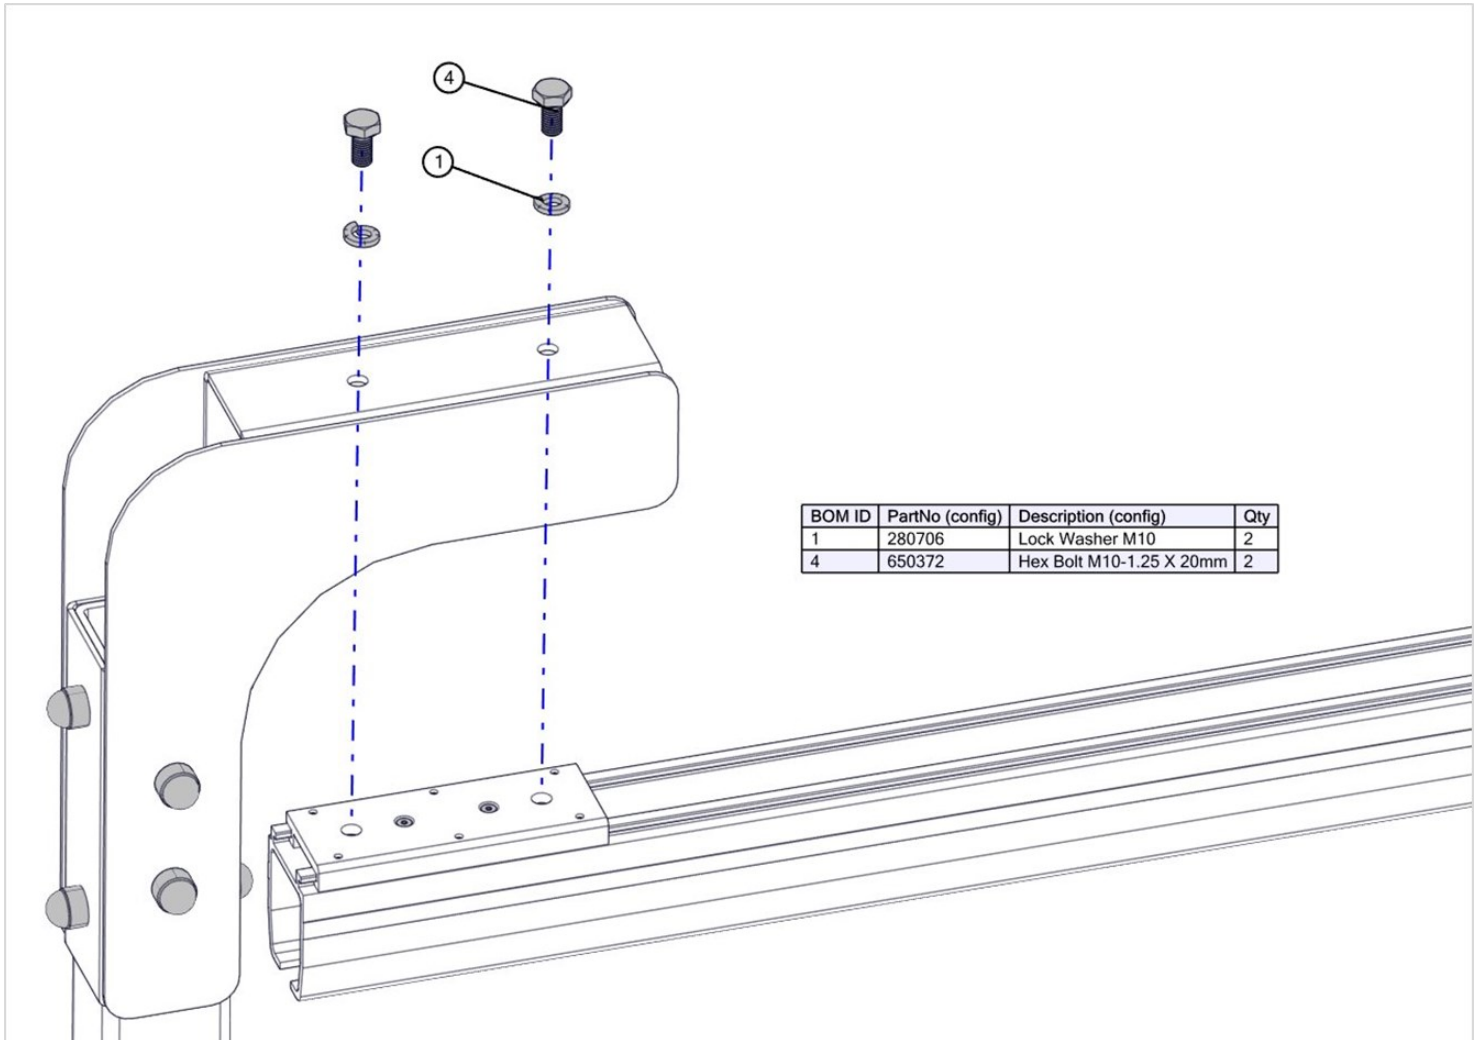

Figure 7. Detail of Assembling Track to the Post
Attach track to post assembly using two (2) M10-1.25 x 20mm Hex bolts with two (2) M10 Lock Washers as shown below in Figure 7. Tighten item 4 to 25-35 N*m (20-25 Lb*Ft).